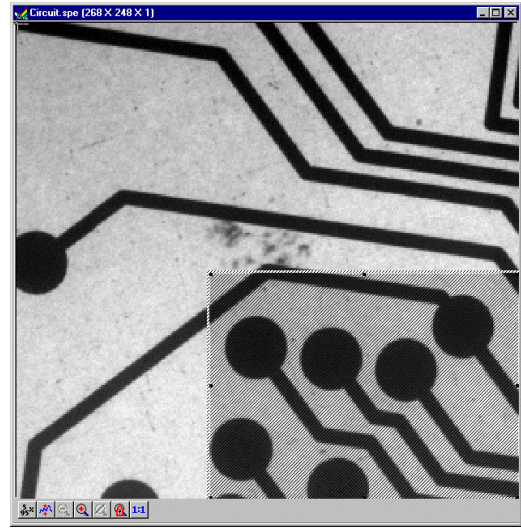

Figure 100. *Circuit.spe* with region selected for viewing
1. Using the mouse, position the cursor at one corner of the region to be defined, depress the left mouse button, drag the cursor to the diagonally opposite corner, and release the mouse button. Refer to Figure 100.